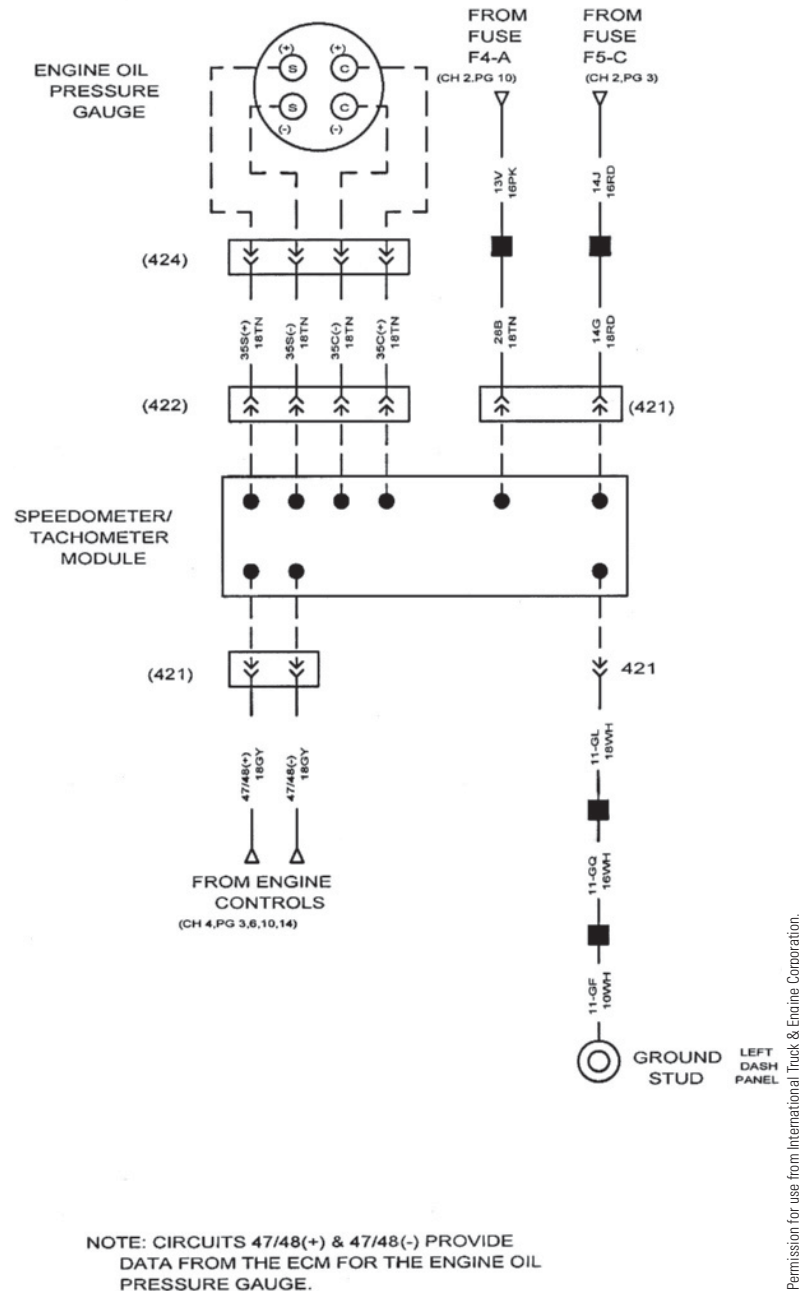

Figure 12-20 Electronically controlled magnetic engine oil pressure gauge circuit.
connected to the sensor or sender. It is important to note that there is no direct connection between the sensor and the gauge coils with electronic gauges. The sensors are connected to the electronic module, and the module then controls the gauge coils accordingly through four wires (**Figure 12-20**). Note in this example that the engine oil pressure sending unit is hardwired to the engine ECM. The speedometer/tachometer module controls the oil pressure gauge via four wires. The connections at the gauge are identified as S+, S-, C+, and C-. These letters stand for sine (S) and cosine (C).